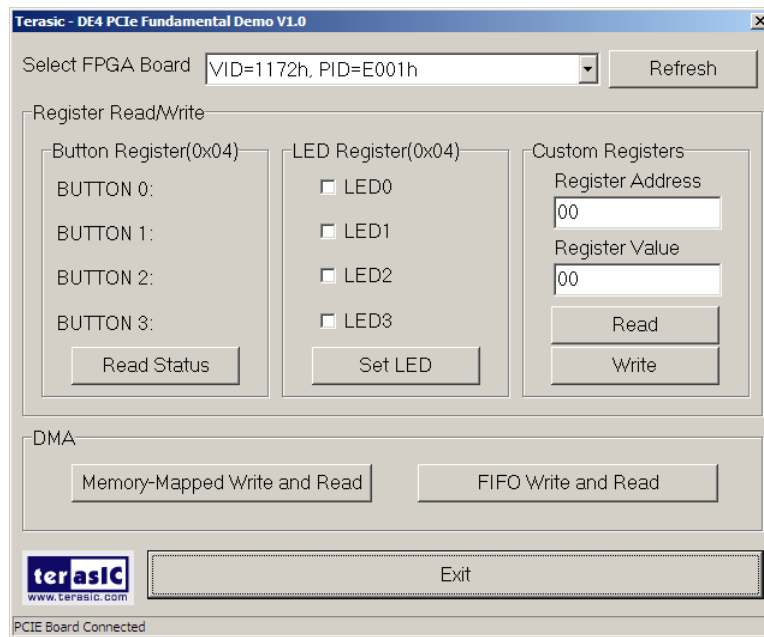

Figure 7-12
- Launch the demo program *PCIE_Fundamental_Demo.exe* shown in **Figure 7-12**.